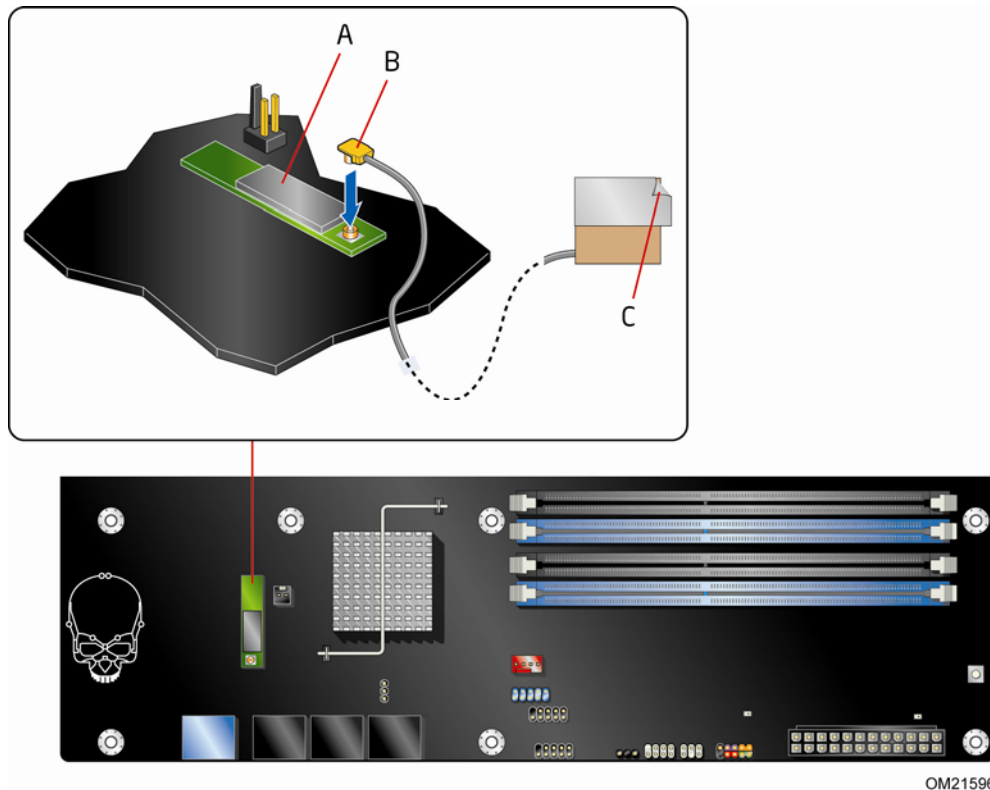

Figure 31. Connecting the Bluetooth Antenna
2. Attach the connector on the end of the antenna lead wire (Figure 31, B) to the mating connector on the Bluetooth module (Figure 31, A).
3. Remove the paper backing from the antenna (Figure 31, C) and attach it to the exterior of the system chassis.